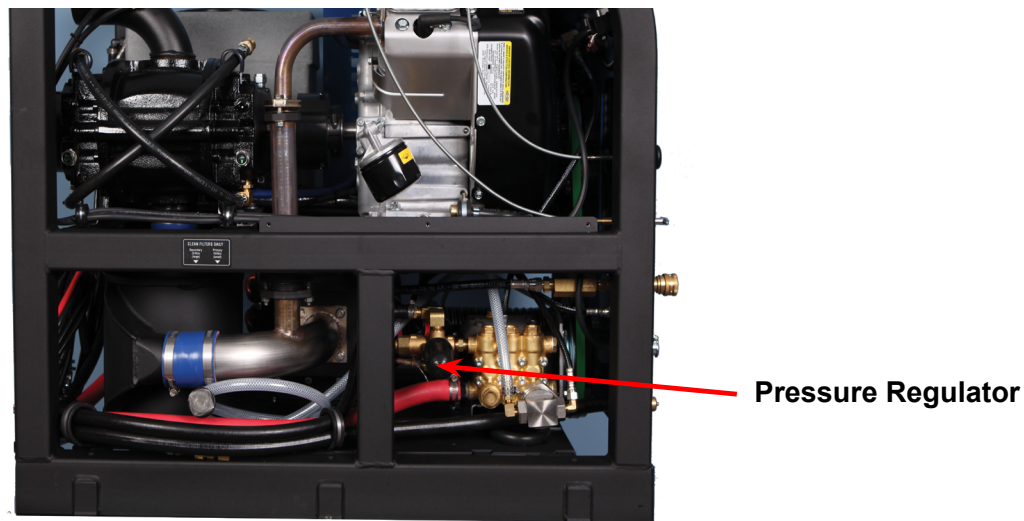

Figure 4. Side View of Titan 325 Console
9. Adjust the “PRESSURE REGULATOR”, located on the left hand side of the machine (see Figure 4), to the desired cleaning pressure level.